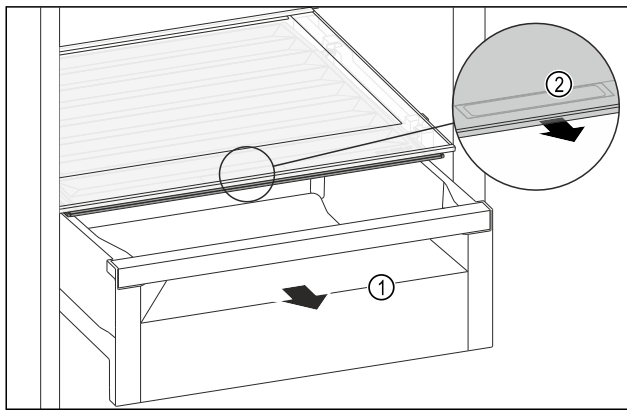

Fig. 168
- Pull out the drawer Fig. 168 (1).
- Grasp the recessed grip Fig. 168 (2) on the compartment lid and pull the compartment lid forwards at the same time.